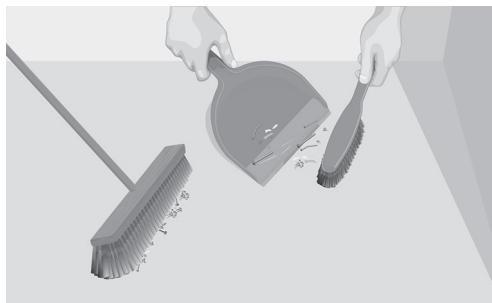

Fig. 3. Cleaning the floor before installation
5. Clean the subfloor (Fig. 3). Make sure to remove all protruding nails, screws and similar objects. Clean the floor and remove all loose debris, dust and dirt.